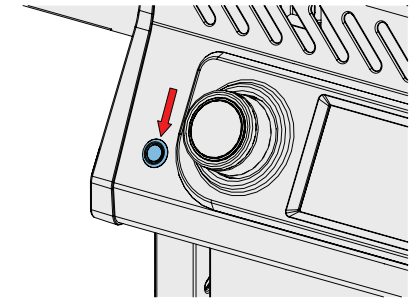

Fig. 2
3. Push the **ON / OFF Switch**. (Fig. 2)